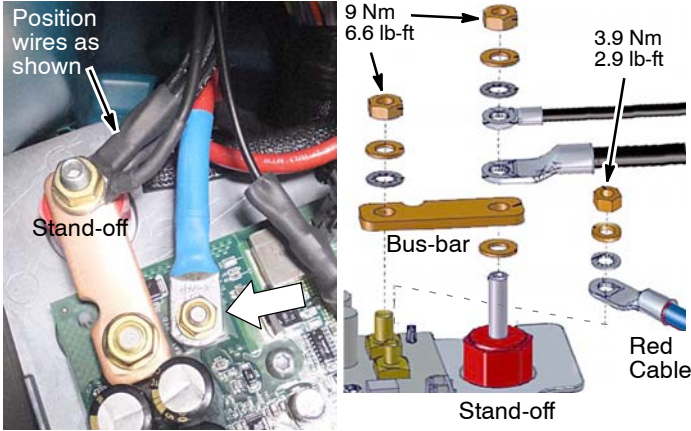

Fig. 10
4. Reconnect the bus-bar and red battery cable to new control board. To allow clearance to remount panel to machine, position the wires that are connected to the stand-off as shown (Figure 10).